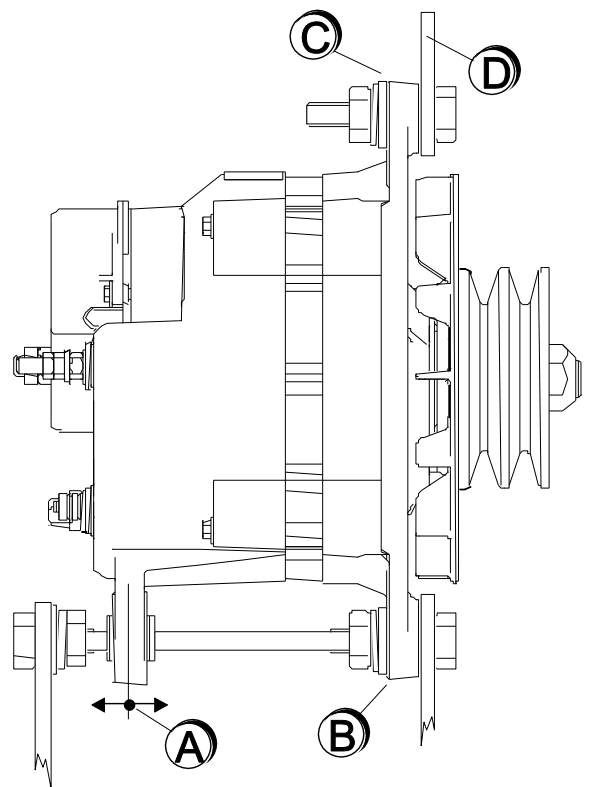

Figure 5
- 2 Loosely attach the mounting bracket to the engine with the mounting engine bolts. Position the alternator mounting foot between the two ears (Figure 5, references A and B) on the mounting bracket with the alternator mounting bolts. Note that the ear at the rear side of the alternator housing should be fixed in such way that it can freely move in the direction of the arrow (see Figure 5, reference A). This is to avoid mechanical stress due to possible high temperatures of the alternator.
- 4 Loosely attach the alternator adjustment strap (Figure 5 and 6: reference 2) to the alternator adjustment ear (Figure 5, reference 3) with the bolt, lock washer and flat washer.
- 5 Tighten the V-belt by applying pressure to the alternator front housing only and tighten the bolt to the adjustment ear (Figure 5, reference 3). Set the belt tension per belt manufacturer's recommended specifications. If manufacturer's specifications are not readily available, set V-belt tension tight enough so that the V-belt on alternator fan pulley will not slip when attempting to rotate alternator by hand.